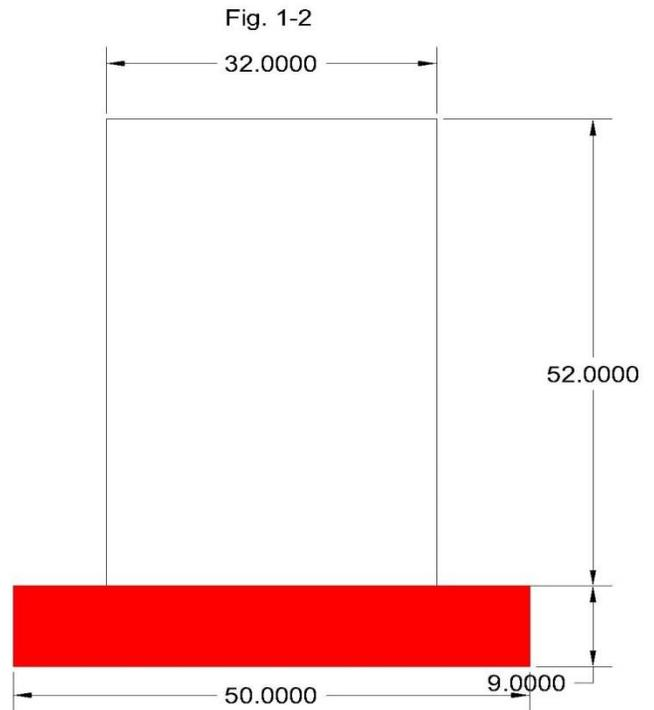

Fig. 1-3
- Using a single piece of self-adhesive flashing tape, make a sill pan with an end dams (sides) that run up the rough framing jamb at least 6" and fold over on to the face of the rough opening and extend outward from the rough opening at least 2". (Figure 1-3 and 1-4)